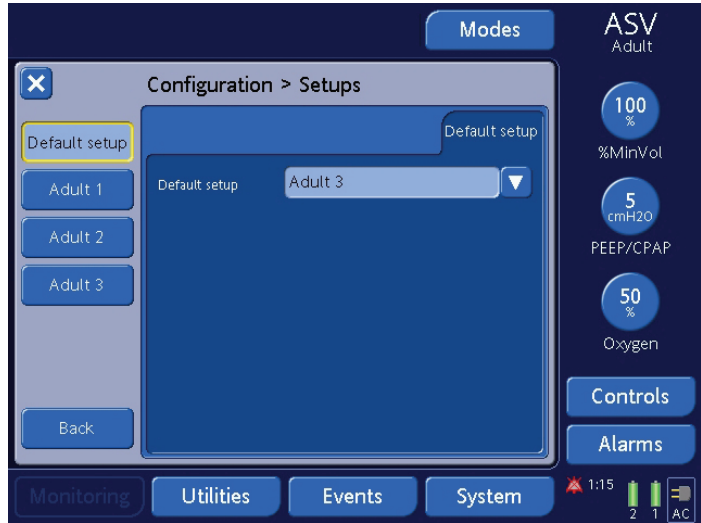

Figure J-5. Default setups configuration window
1. Through the **Setups** window (Figure J-5), open the **Default setup** window.